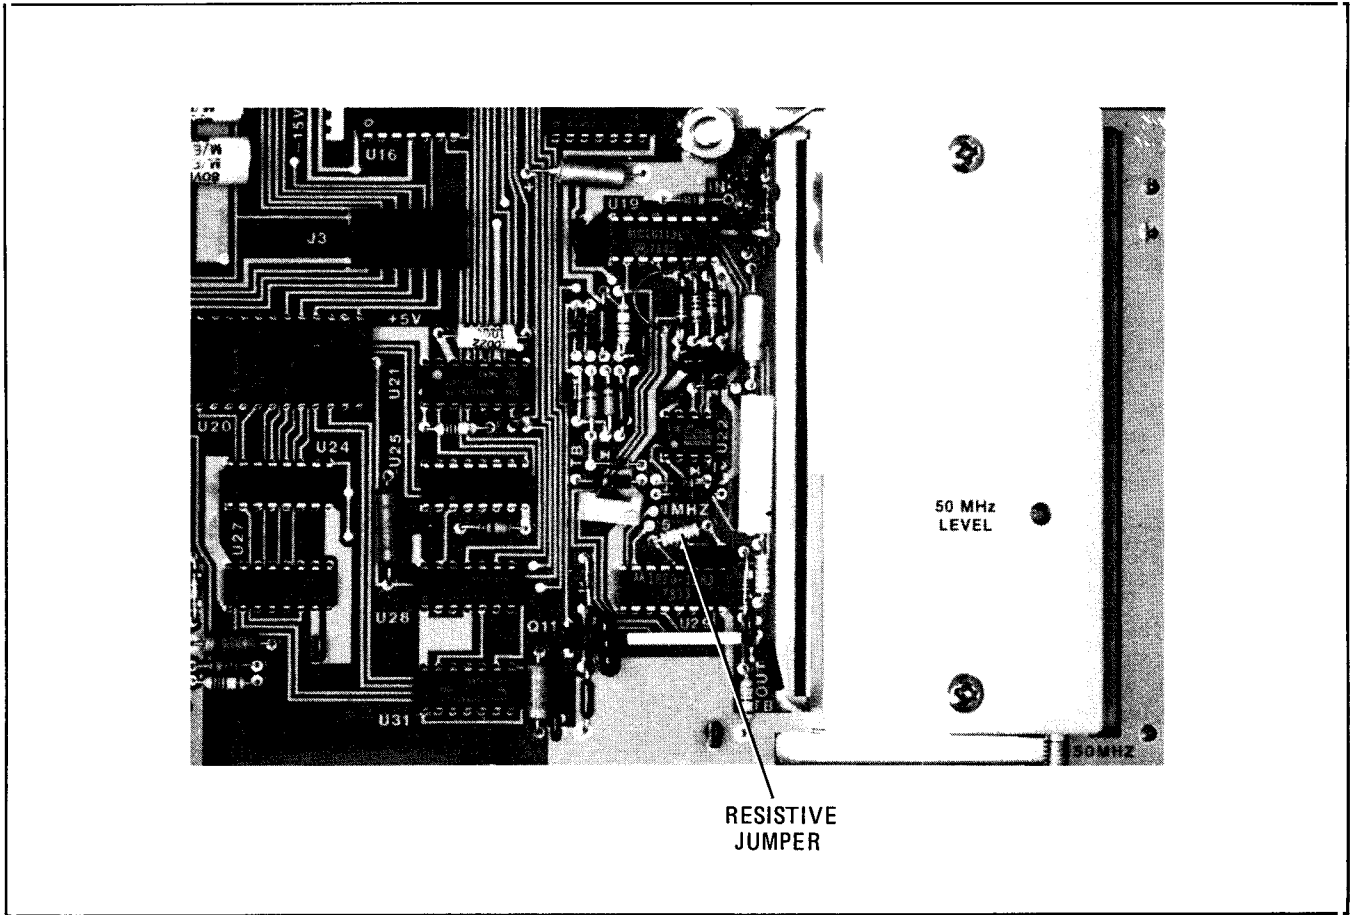

Figure 2-3. Time Base Jumper Location
- Locate the time base jumper on the Low Frequency Loop Assembly — A3 (see Figure 2-3).